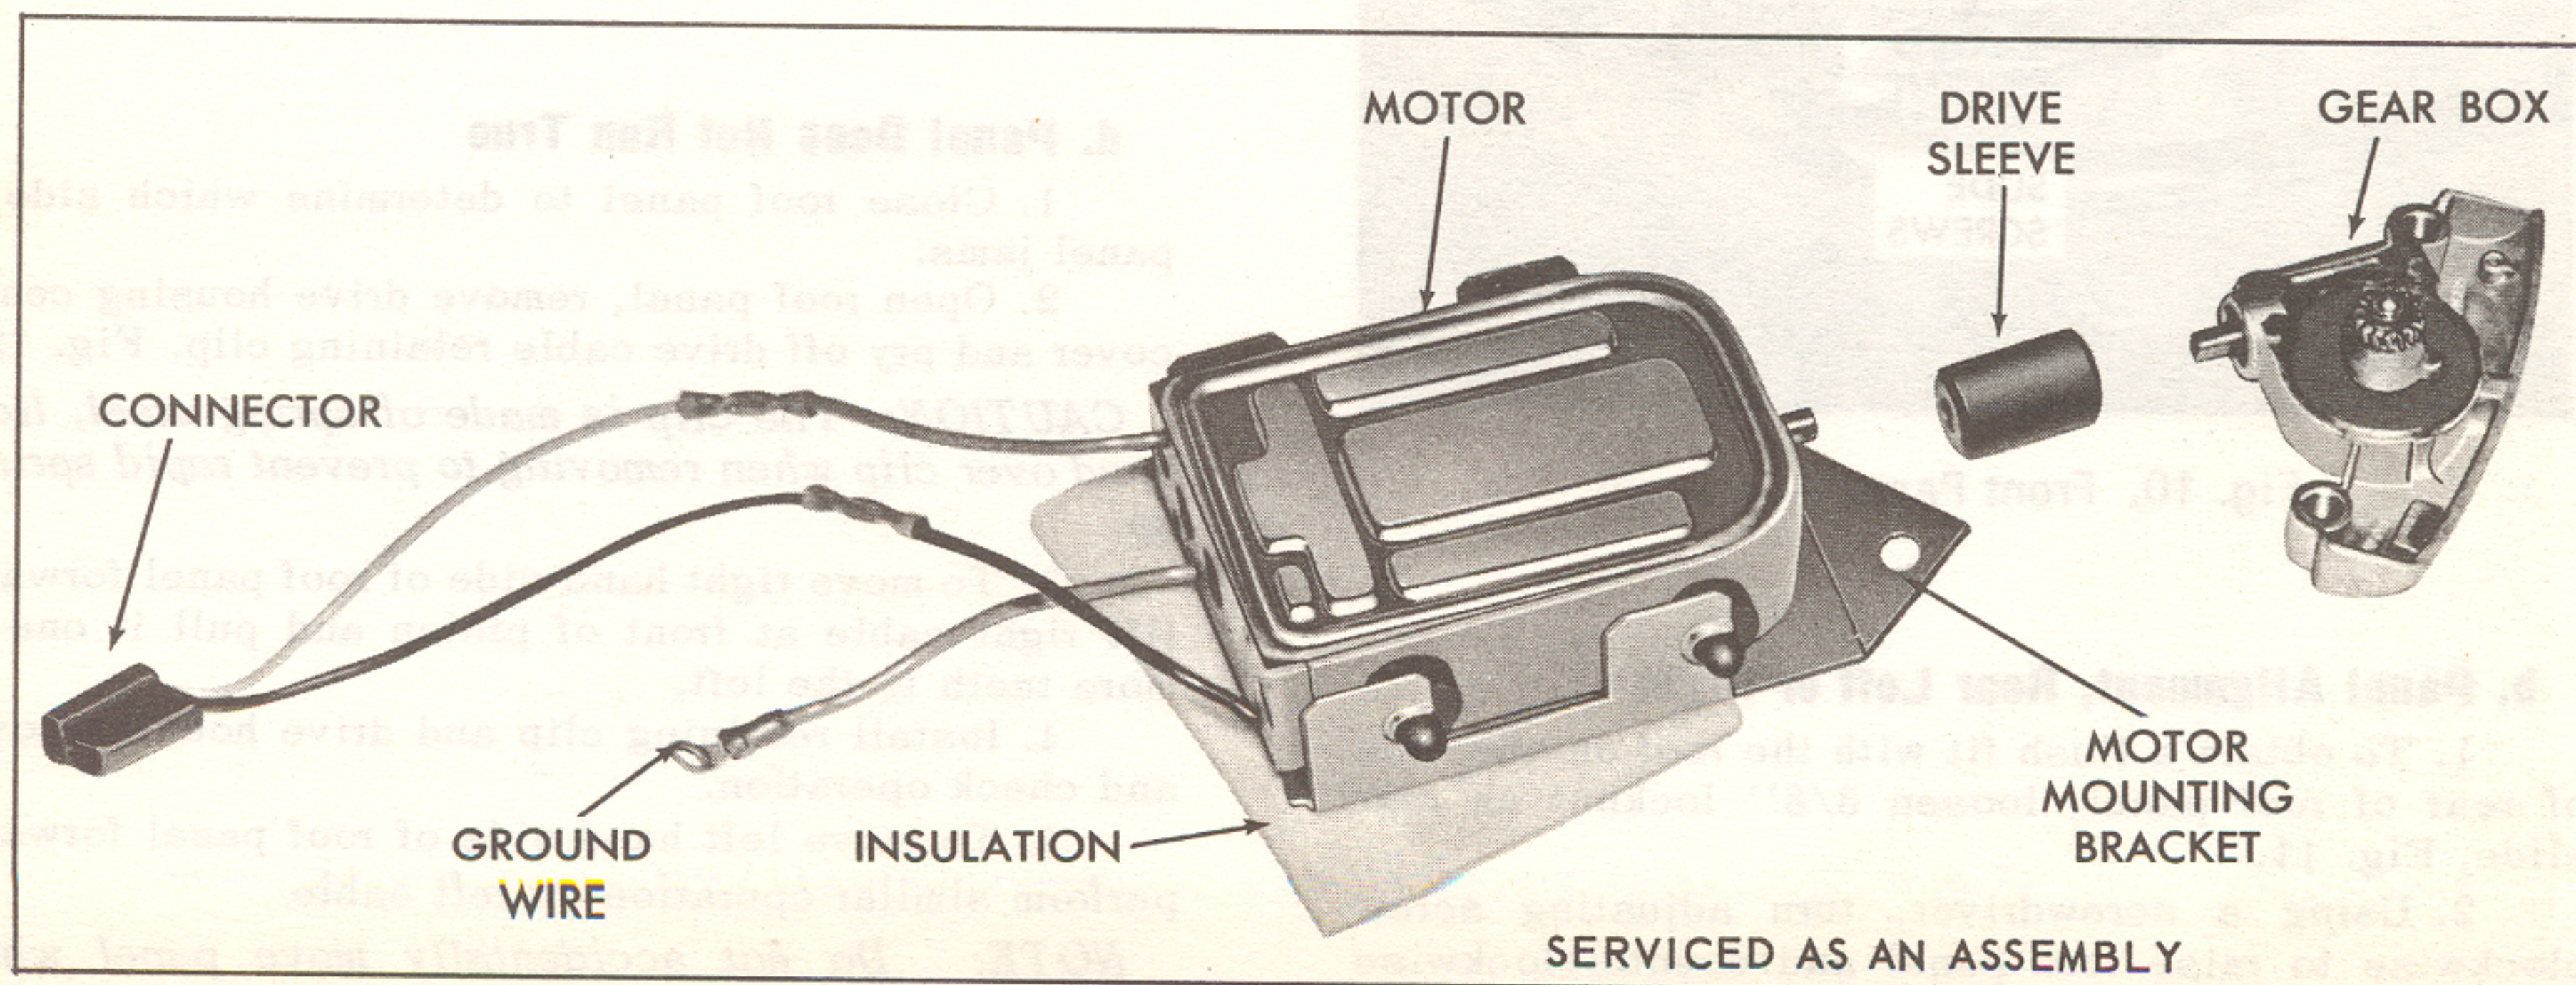

Fig. 13. Motor and Gear Box Disassembled
1. Install drive sleeve on motor drive shaft, Fig. 13.